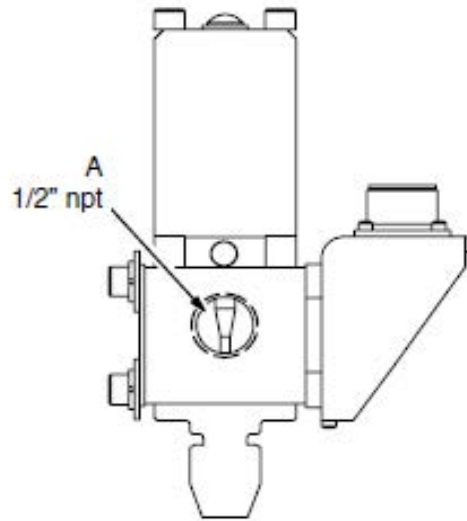
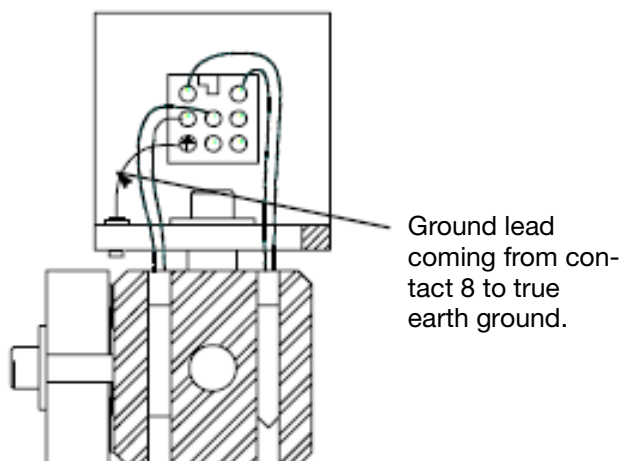

FIG. 5
FIG. 7
Making sure to connect the appropriate air lines to the appropriate ports (see FIG. 5), securely connect air lines to dispense valve air ports (G).
Securely connect the material hose to the dispense valve material inlet port (A). See FIG. 5.
3. Verify that socket contact E on six pin models (see FIG. 5) or contact eight on eight pin models (see FIG. 7), inside control panel receptacle, is connected to true earth ground.